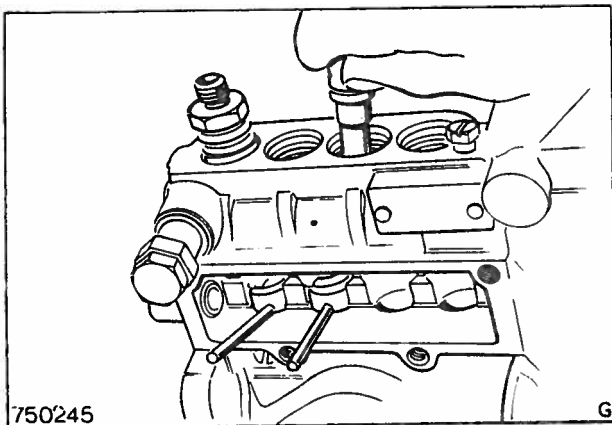

Fig. 52 Removing the pump barrel
15. Remove the control sleeve and carefully remove the pump barrel by pushing upwards. Fig. 52.